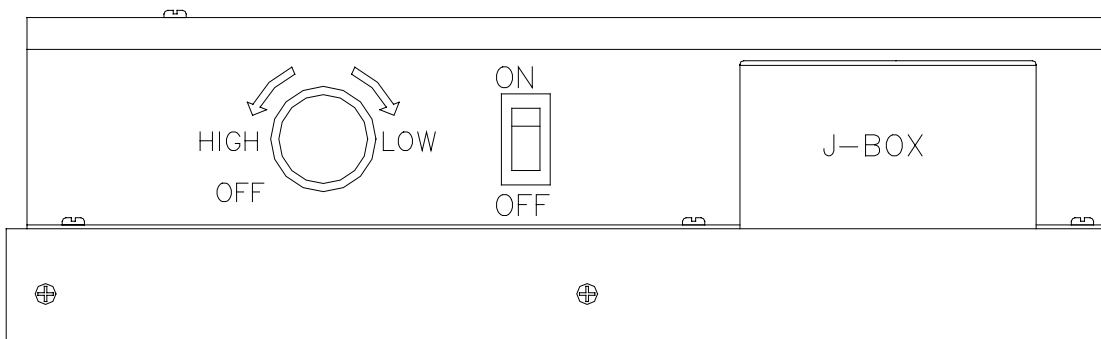

Figure 4
Step 4. Lift the lid assembly off the HEPA filter and discard the HEPA filter (see Figure 4) as per requirements of the applicable regulations.
- B. The top position is “OFF”. The bottom position is “ON”. (See Figure 4).